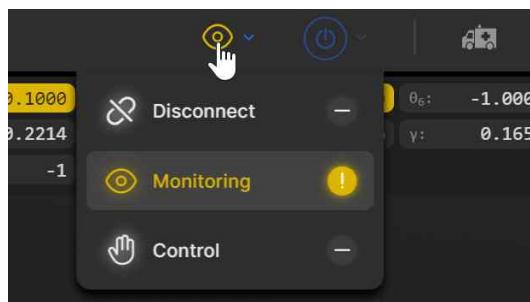

Figure 11: Connection state button
1. Click on the connection state button on the top right of the MecaPortal and select "Control" (see Figure 11).
Normally, once the web user interface is loaded, you have not only established an HTTP connection with the robot, but also activated the socket messaging which is the only communication channel between the web interface and the robot. By default, the web interface connects to the robot in monitoring mode only (as seen in Figure 11). To control the robot click on the icon and select . If the robot is in error when you connect to the robot, the connection state button will show a red blinking icon. You can still press that button and select to only monitor or control the robot. The monitoring option can be used to see in real-time the motion of the robot when another client (e.g., another MecaPortal, a Python program, or a Profinet application running on a PLC) is controlling the actual robot.